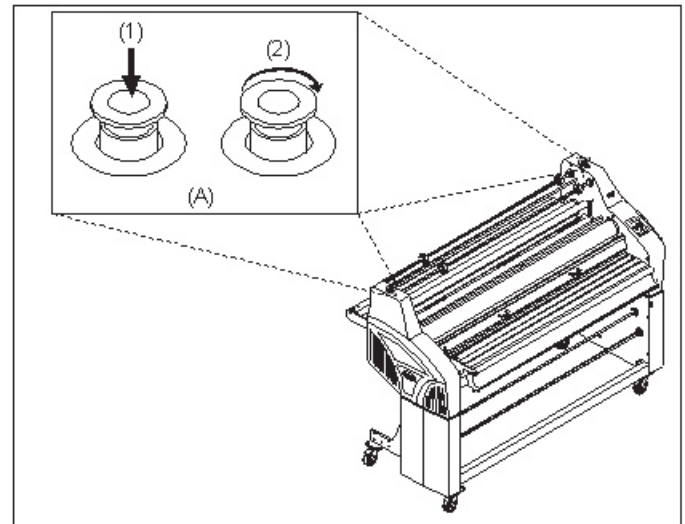

Fig 13
A. E-STOP: (Figure 13) Two E-STOP buttons exist on the laminator. One on each side of the upper cabinet. To engage (1), press either push button, roller movement is stopped. To disengage (2), turn the push button clockwise once the emergency condition has been resolved.